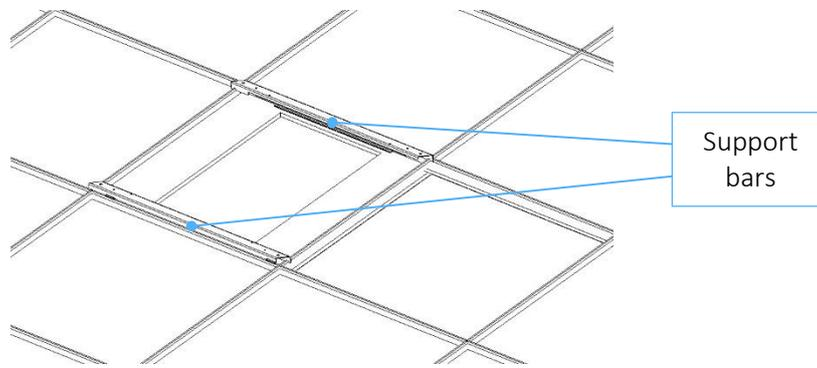

Fig. 11 *Mounting for false ceiling 60x60: step C.*
- C. Position the support bars [2] and slot them into the load bearing structure of the false ceiling (Figure 11).